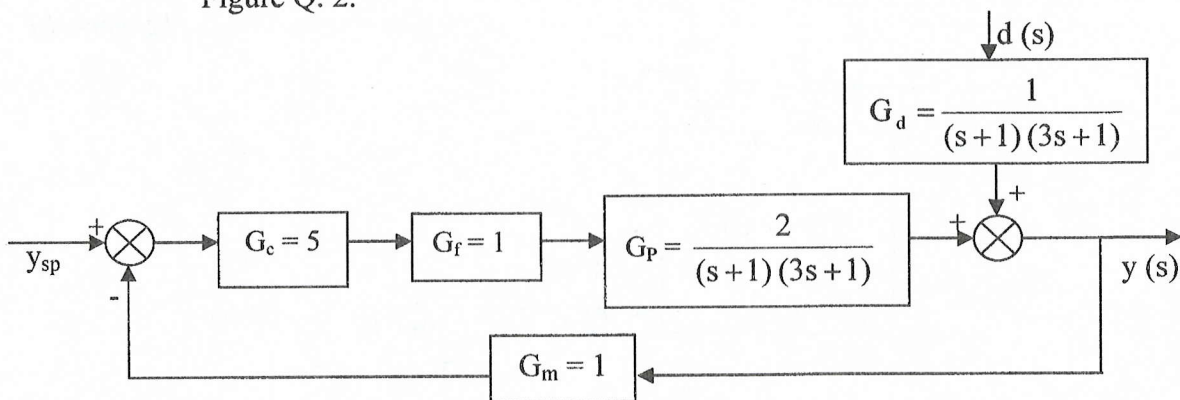

Figure Q. 2
- [c] Consider the following block diagram of a control system shown in Figure Q. 2.